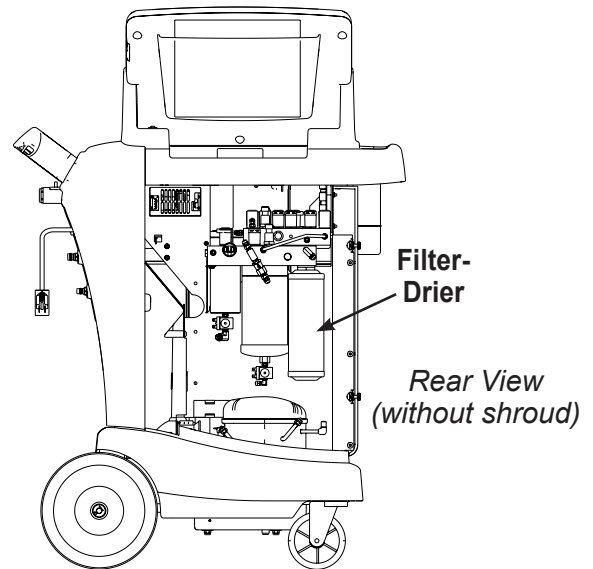

Figure 13
5. The display reads PLEASE REPLACE FILTER. Open the rear door of the unit and unscrew the old filter. See Figure 13.